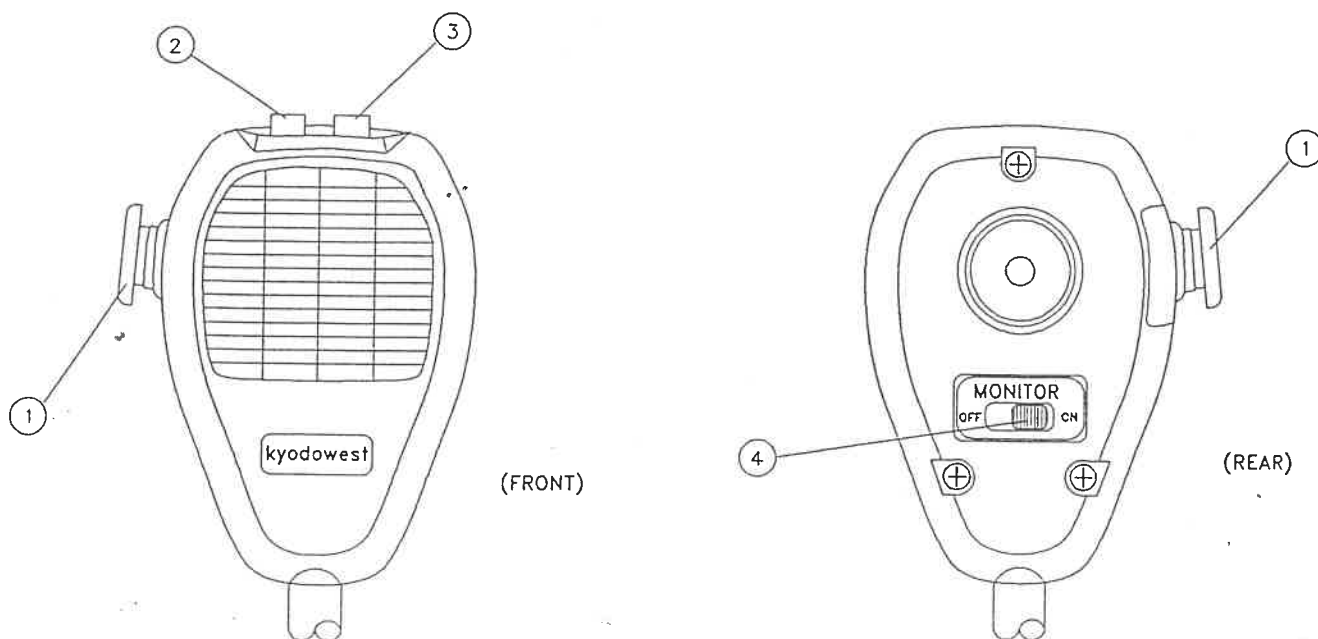

Figure 5-2. Repeater Microphone Controls and Features
Depress the Power Switch (1) on the upper right of the front panel to turn the radio ON. Pressing it again will shut off the radio. (You will notice that the REP Indicator (7) lights whenever the power switch is first pressed ON. If you need it to work as a mobile instead of a repeater, press the REP OFF button on the microphone, see Figure 5-2.)
The Transmit Indicator (4) lights when you press the Push-To-Talk switch on the external microphone (See Figure 5-2).
The Squelch Control (6) stops the speaker noise that is present when a channel is busy. Before adjusting the squelch in radios equipped with tone squelch, several steps are necessary. Put the microphone Monitor Switch ON or take the microphone off its hook (See Figure 5-2). This lets you monitor all traffic. To set the squelch control, set the volume at a normal level. Turn the Squelch Control completely counterclockwise. Pick a channel where there is no activity. Slowly turn the Squelch Control clockwise until the noise just stops. Advancing the control past this point can result in failure to receive weaker signals. Note that the repeater function is disabled while in the monitor mode.
Plug the external microphone into the Microphone Jack (10) on the lower right of the control panel. Refer to Figure 5-2 for microphone operation.
The external microphone for the KG106R contains the following controls and features (See Figure 5-2):